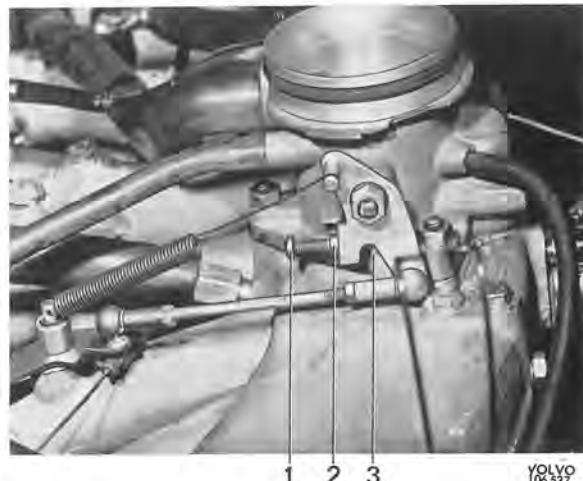

Fig. 2-143. Stop screw for throttle valve
1. Release the locknut for the stop screw (2, Fig. 2-143) for the throttle valve switch and screw out the screw a couple of turns so that it does not lie against the stop on the throttle valve spindle. Check to make sure that the switch is fully closed.